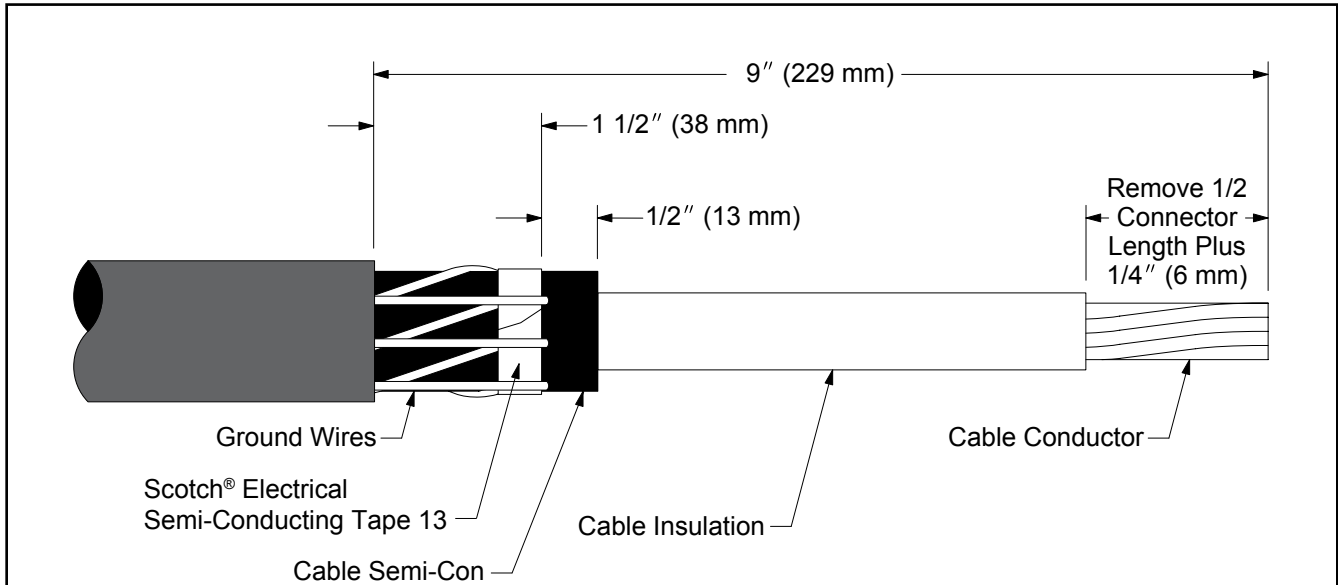

Figure 3
- Remove jacket a distance of 9" (229 mm) (*Figure 3*).
- Wrap 2 full wraps Scotch® Electrical Semi-Conducting Tape 13 over ground wires, 1 1/2" (38 mm) from cable jacket ends (*Figure 3*).
- Bend ground wires back over 13 tape and cut off wires at jacket edge (*Figure 3*).
- Remove cable semi-con layer as shown (*Figure 3*).
- Remove cable insulation from cable ends for a distance of 1/2 connector length plus 1/4" (6 mm) (*Figure 3*).